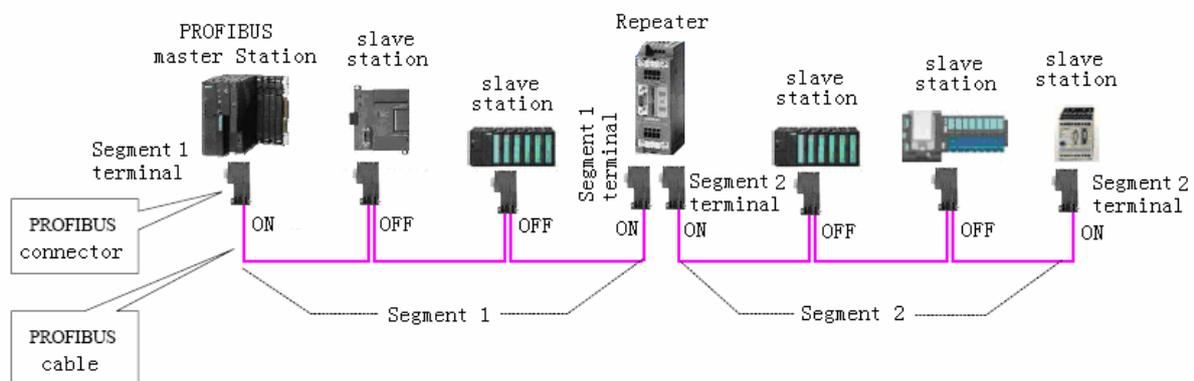

Fig.1-1 PROFIBUS fieldbus adopts bus network topological structure
1. As regulated in PROFIBUS Standards, bus network topology is adopted when RS485 is signaled. Network components like repeater and connector, and concepts like network segment, terminal, etc, are also presented in the Standards. As shown in Fig. 1-1, when the cable is longer than the standard-length, or stations in the network are more than that regulated in the specifications, a repeater is needed to cut the bus into Segment 1 and Segment 2, and the head and end of each segment are called terminals.